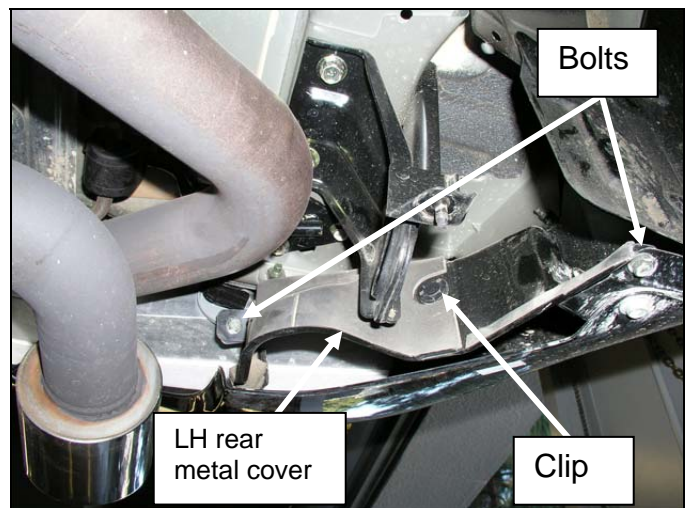

Figure 7
10. Below the plastic cover you just removed: remove two bolts and one clip and remove the rear metal cover (see Figure 7).